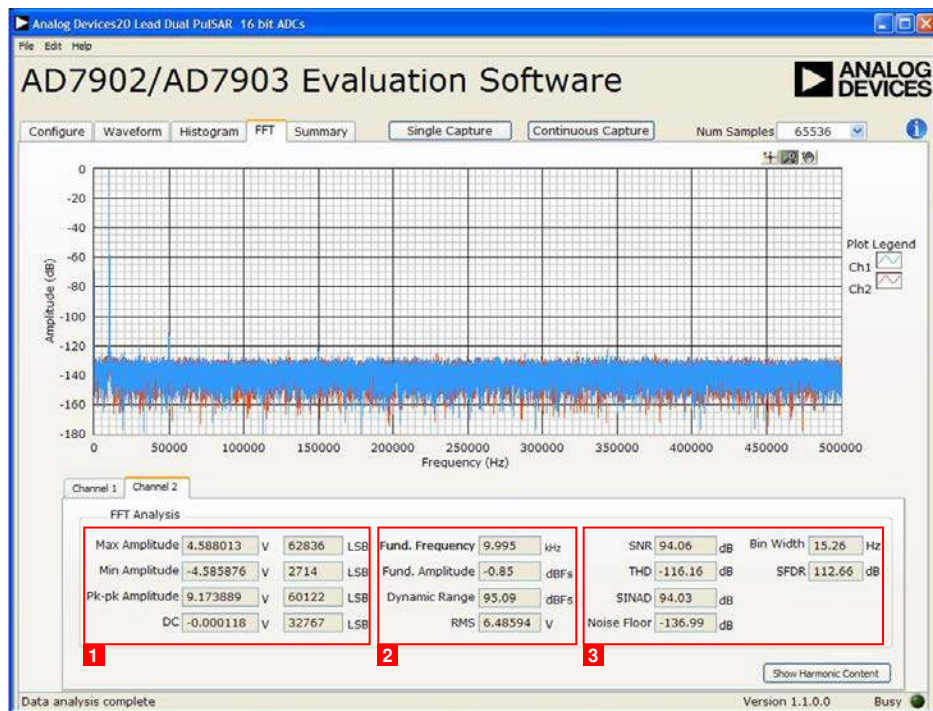

Figure 24. FFT Tab
Figure 24 shows the FFT tab. This feature tests the traditional ac characteristics of the converter and displays a fast Fourier transform (FFT) of the results.
- The area labeled 1 in Figure 24 shows the spectrum information.
- The area labeled 2 in Figure 24 displays the fundamental frequency and amplitude. You can also click **Show Harmonic Content** to view information about the second to fifth harmonics.
- The area labeled 3 in Figure 24 displays the performance data, including the SNR, dynamic range, THD, SINAD, and noise performance.